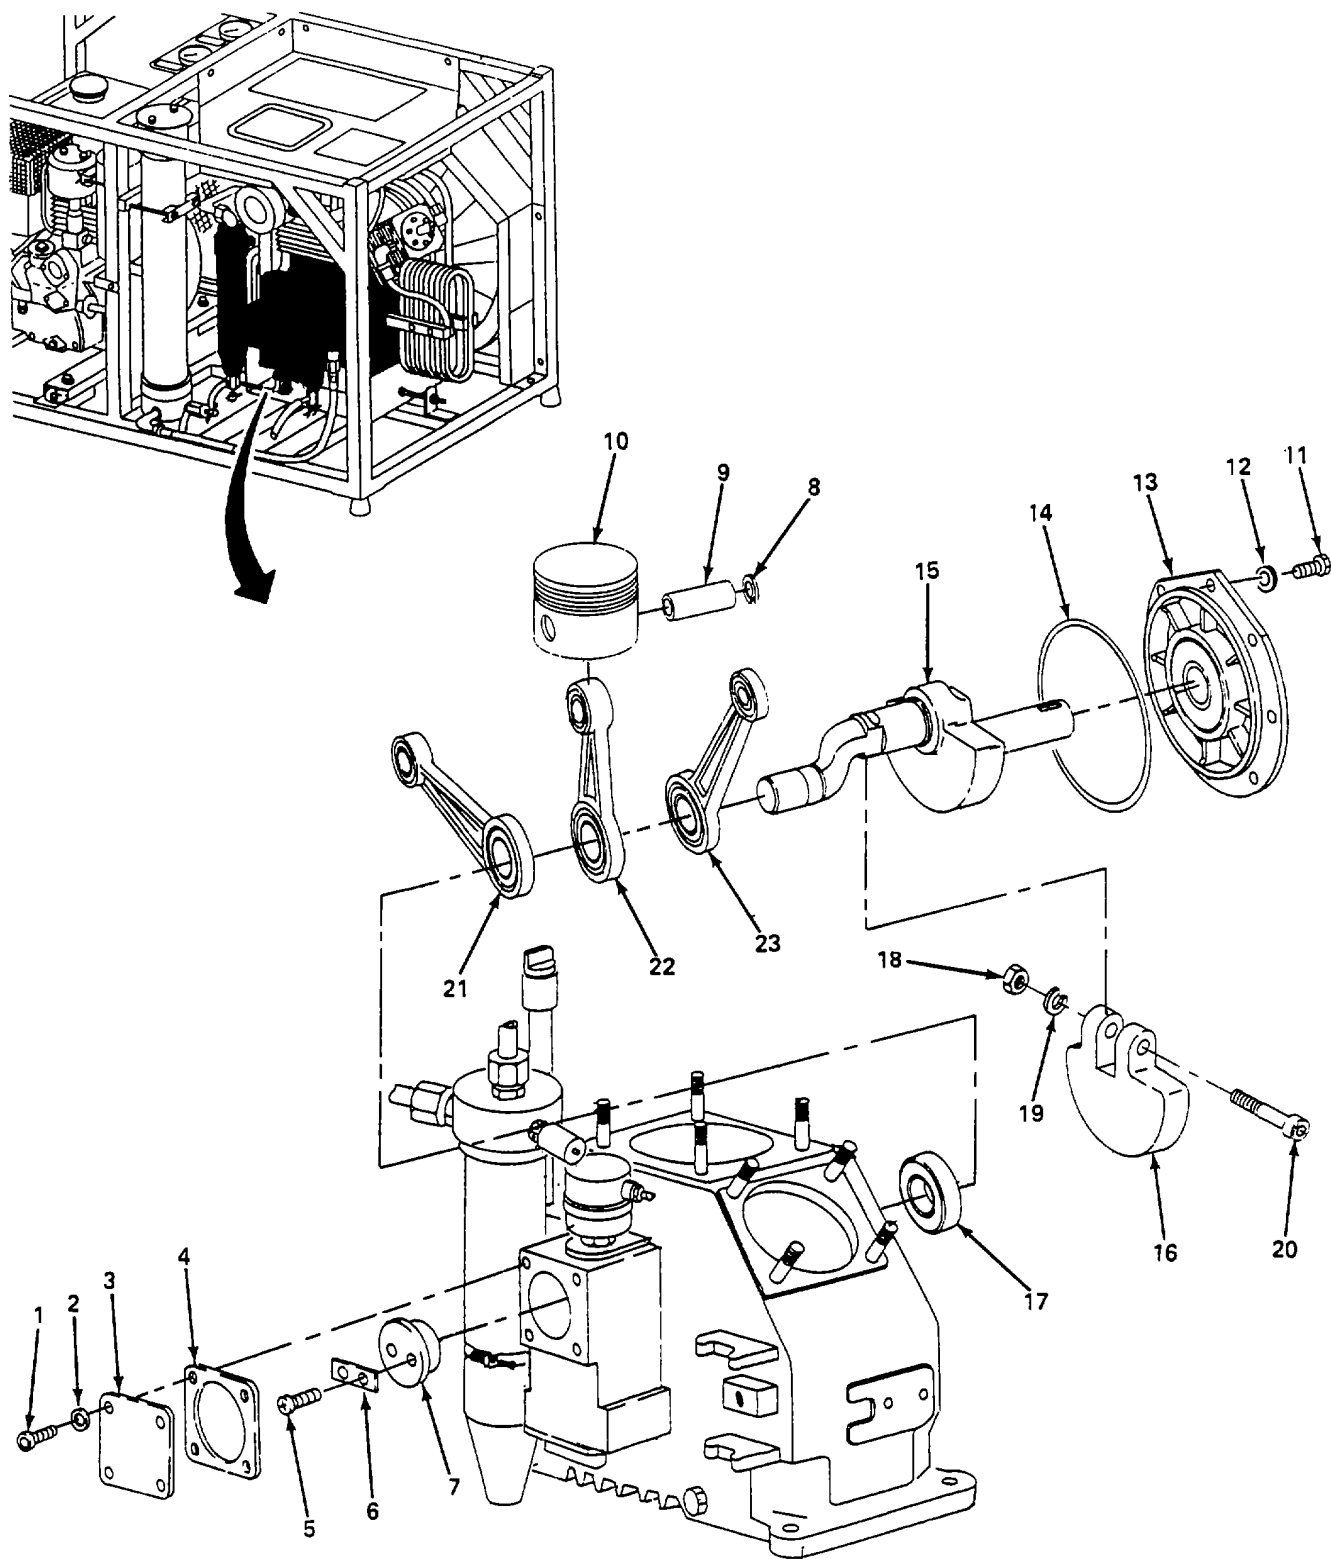

Figure 6-2. First Stage Piston and Piston Rod Assembly, Replace.
a. Replace. (figure 6-2)**WARNING**